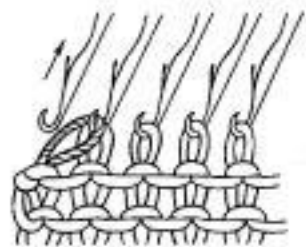

Fig. 44
- (a) With the single eye Transfer Tool transfer the stitch from the end needle onto the second needle. (Fig. 44)